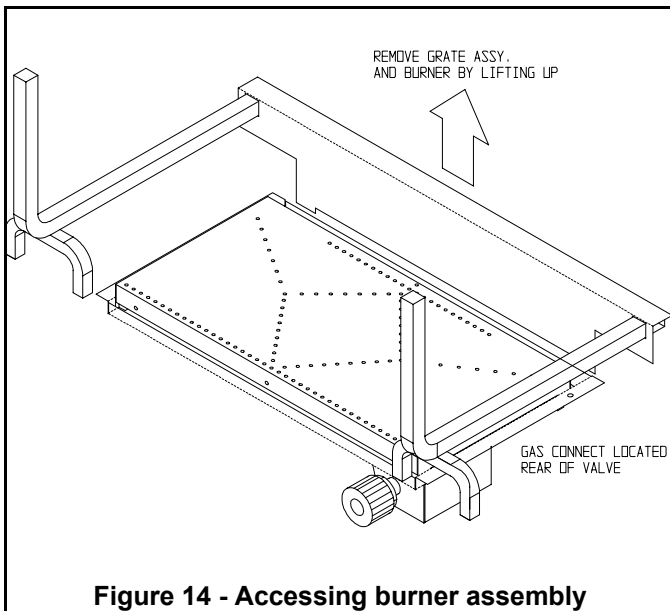
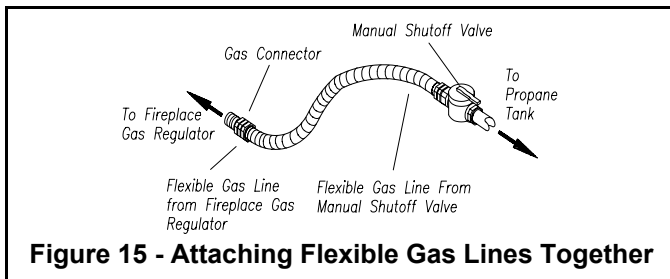

Figure 14 - Accessing burner assembly
Figure 15 - Attaching Flexible Gas Lines Together
4. Apply pipe sealant lightly to male threads of gas connector attached to flexible gas line (see figure 15). Connect flexible gas line to flexible gas line attached to gas inlet gas valve of fireplace. (Fig 14).